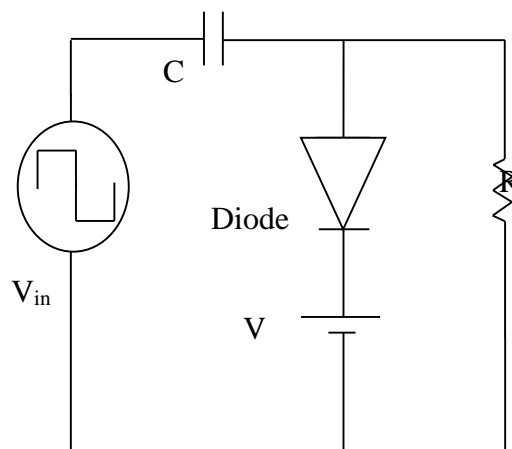

Fig 6.5 Biased Negative Clamper circuit
1. Connect circuit as shown in Fig 6.5 below: